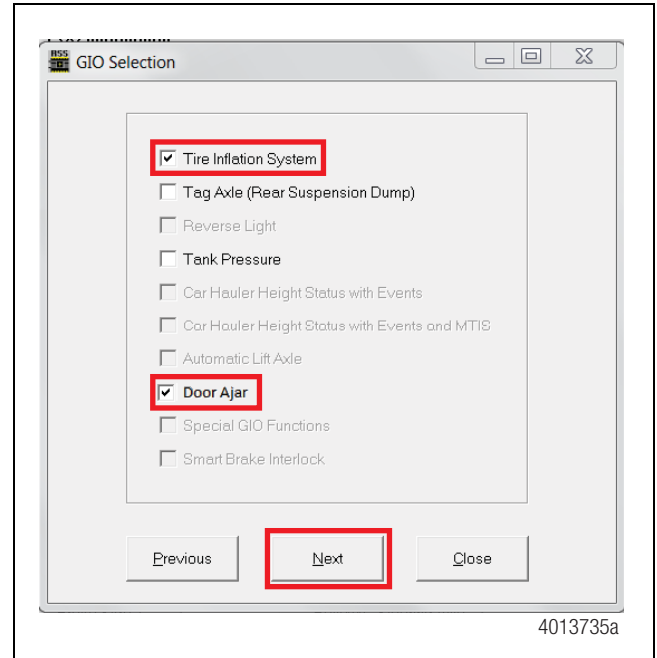

Figure 7
- When the GIO Selection screen is displayed, click both the **Tire Inflation Systems** and **Door Ajar** check boxes. Ensure that a check appears in each box. Then, press the **Next** button at the bottom of the screen. Figure 7.